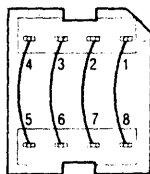

Figure 3-12
1. Wire an 8-pin header as shown in Figure 3-12, and install it in the Clock Header socket, board location 1A.